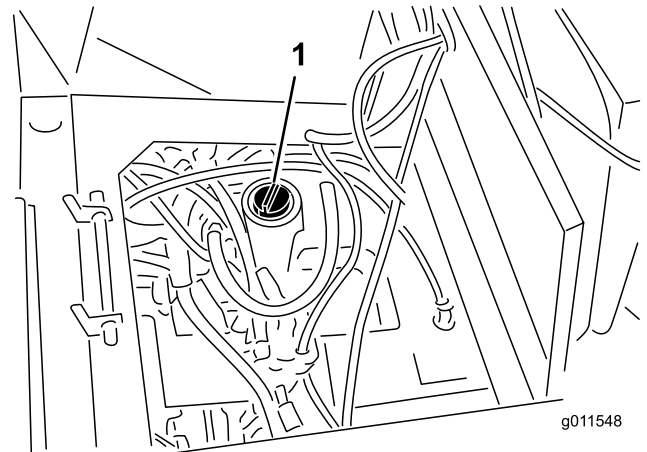

Figure 74
3. Fill the reservoir (Figure 74) with approximately 8 gallons (30 l) of hydraulic fluid; refer to Checking the Hydraulic Fluid.